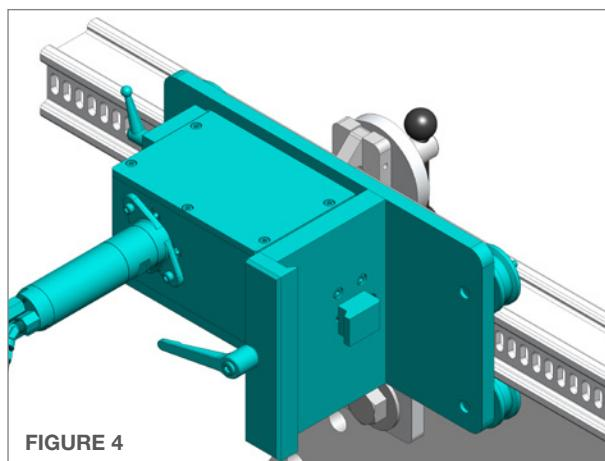

FIGURE 4
4. Loosen the **Quick Adjust Handle** and pull the gearbox away from the carriage plate. This will allow the **Horizontal Drive Carriage** to slide onto the rail without pneumatic power to rotate the drive. Center the carriage on the top rail and push the gearbox back toward the carriage plate. This will engage the gear into the rail slots. Verify the gear is engaging the slots correctly and retighten the adjustable handle. (**Figure 4**)